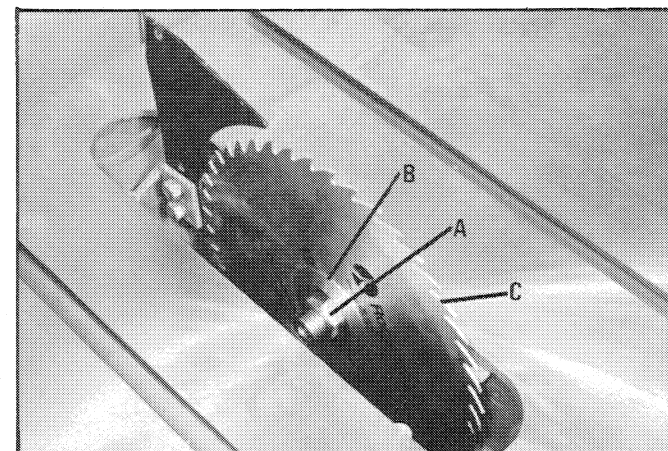

Fig. 23
2. Place blade (C) on saw arbor and replace flange (B) and arbor nut (A), as shown in Fig. 23. Teeth of blade must point down at the front of table.
Important: When the two screws (J) Fig. 23, are loosened to reposition the fence, the fence must be readjusted parallel to the miter gage slot as previously explained under the section "Assembling Rip Fence".